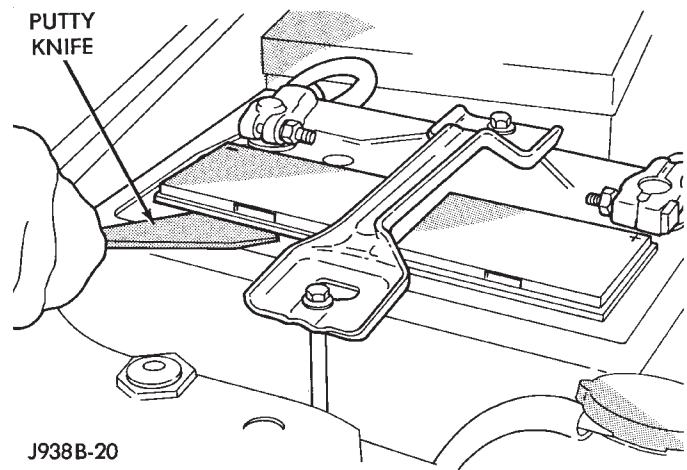

Fig. 1 Removing Filler Cap
(2) Clean outside of battery case if the original battery is to be installed. Clean top cover with diluted ammonia or a sodium bicarbonate/water solution to remove acid film. Flush with clean water. Ensure that cleaning solution does not enter cells.
(3) Remove corrosion from the terminals with a wire brush or post and terminal cleaner. Inspect the case for cracks or other damage that would result in leakage of electrolyte.
(4) Check electrolyte level in the battery. Use a putty knife or other suitable wide tool to pry filler caps off low maintenance battery (Fig. 1). Do not use a screwdriver. Add distilled water to each cell until the liquid reaches the bottom of the vent well. **DO NOT OVERFILL.**
(5) Operate the engine immediately after adding water (particularly in cold weather) to assure proper mixing of the water and acid.